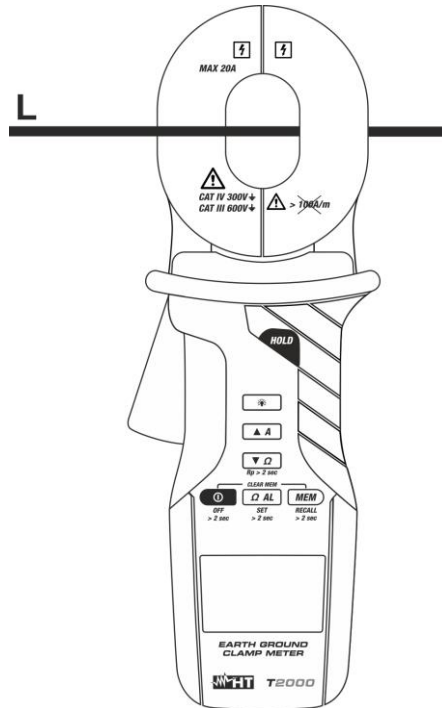

Fig. 19: AC current measurement
3. Open the jaws gently and clamp the cable to be measured (see Fig. 19), then read the displayed result.